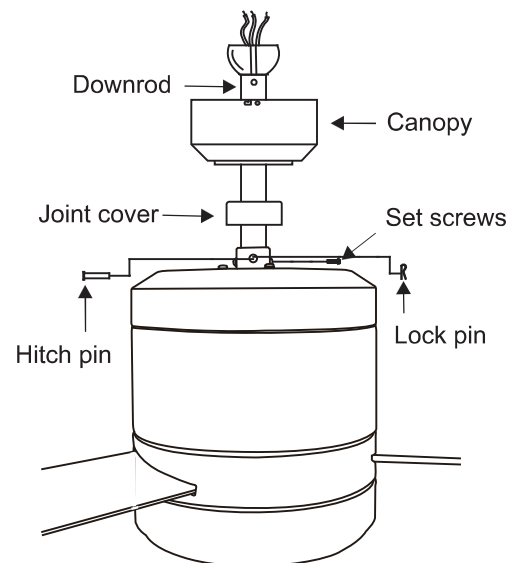

Fig.9
Step 4 Route wires exiting from the top of the fan motor through the canopy and then through the ball/downrod. (Fig.9)
Step 5 Align the holes at the bottom of the downrod with the holes in the collar on top of the motor housing. Carefully insert the hitch pin through the holes in the collar and downrod. Be careful not to jam the pin against the wiring inside the downrod. Insert the locking pin through the hole near the end of the hitch pin until it snaps into its locked position. (Fig.9)